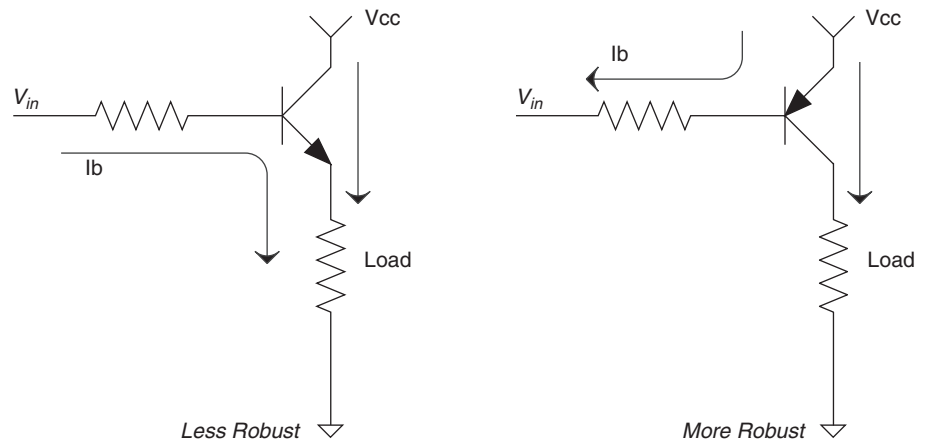

FIGURE 3.5
0.7V higher. Even if you get the input to 0V exactly, since current has to flow, the voltage at the base will be a little higher. The voltage at the emitter will be 0.7V above that. Notice now that any voltage change at this point will be reflected at the output. Now contrast that with the more robust design. When you pull the signal at the input low, current will flow through the base just like the other design, but do you see the difference? In the second design, the input voltage can vary quite a bit, and as long as the transistor is in saturation, the voltage drop at the output from collector to emitter will remain the same—see Figure 3.5.